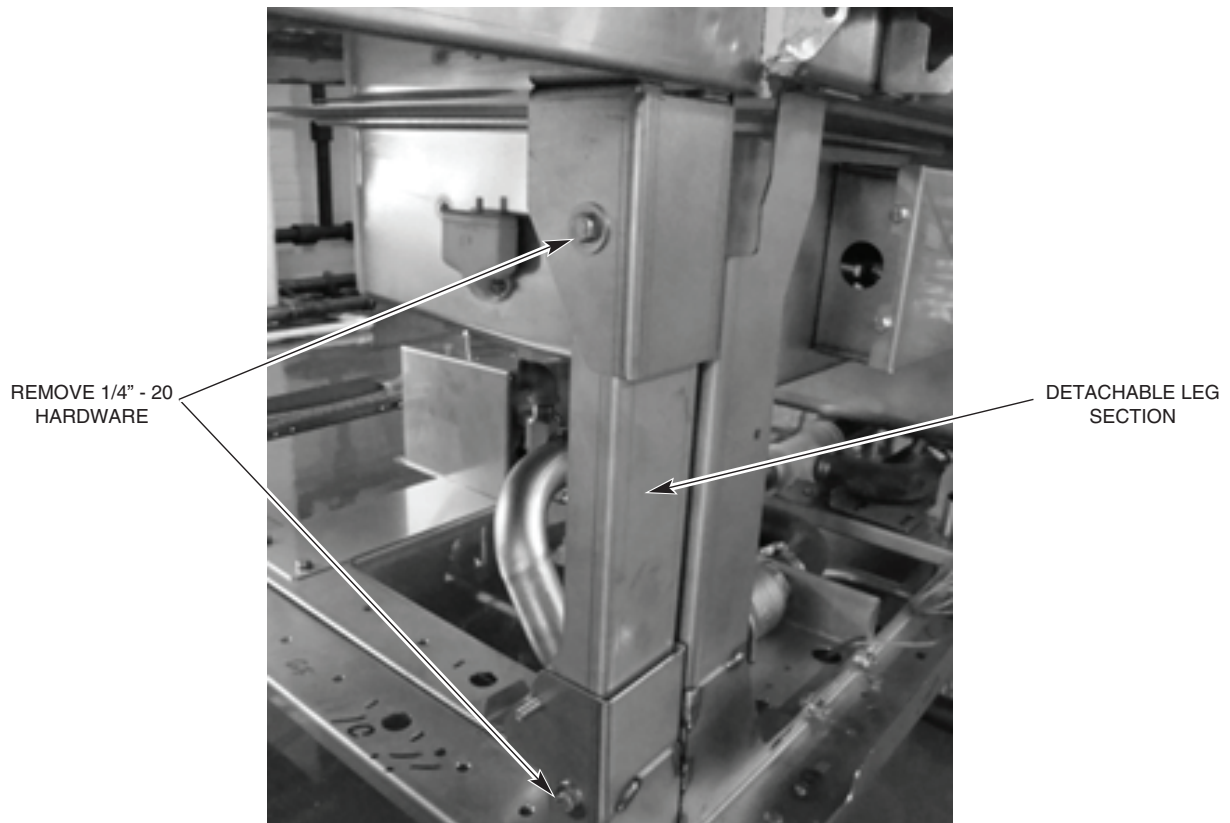

Fig. 6
2. Remove the detachable leg section on the front leg of the unload section where the control box will be mounted. This will allow the wires, which are preinstalled in the control box, to pass by the leg assembly freely (Fig. 6).